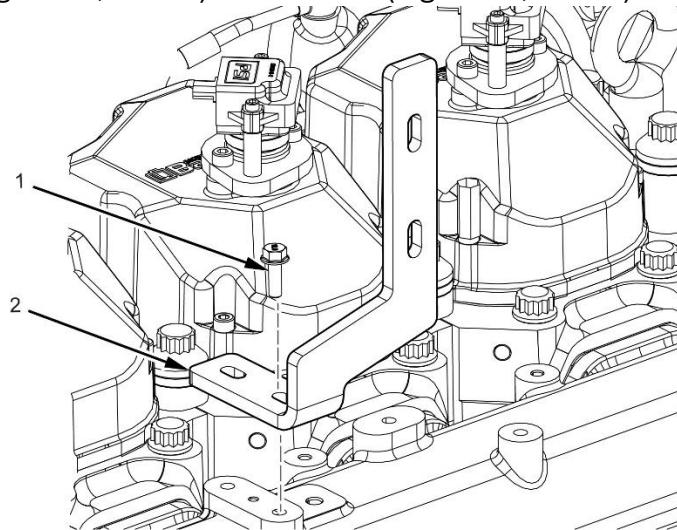
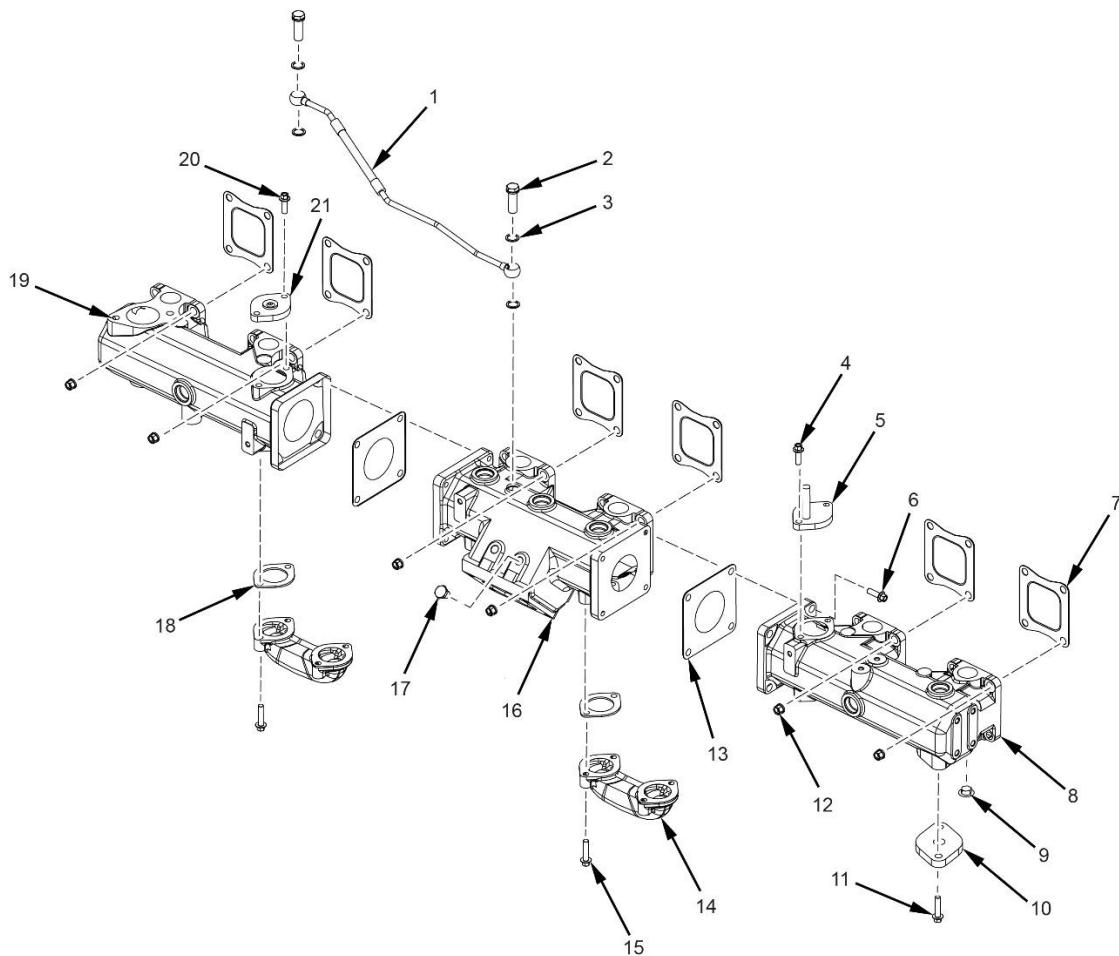
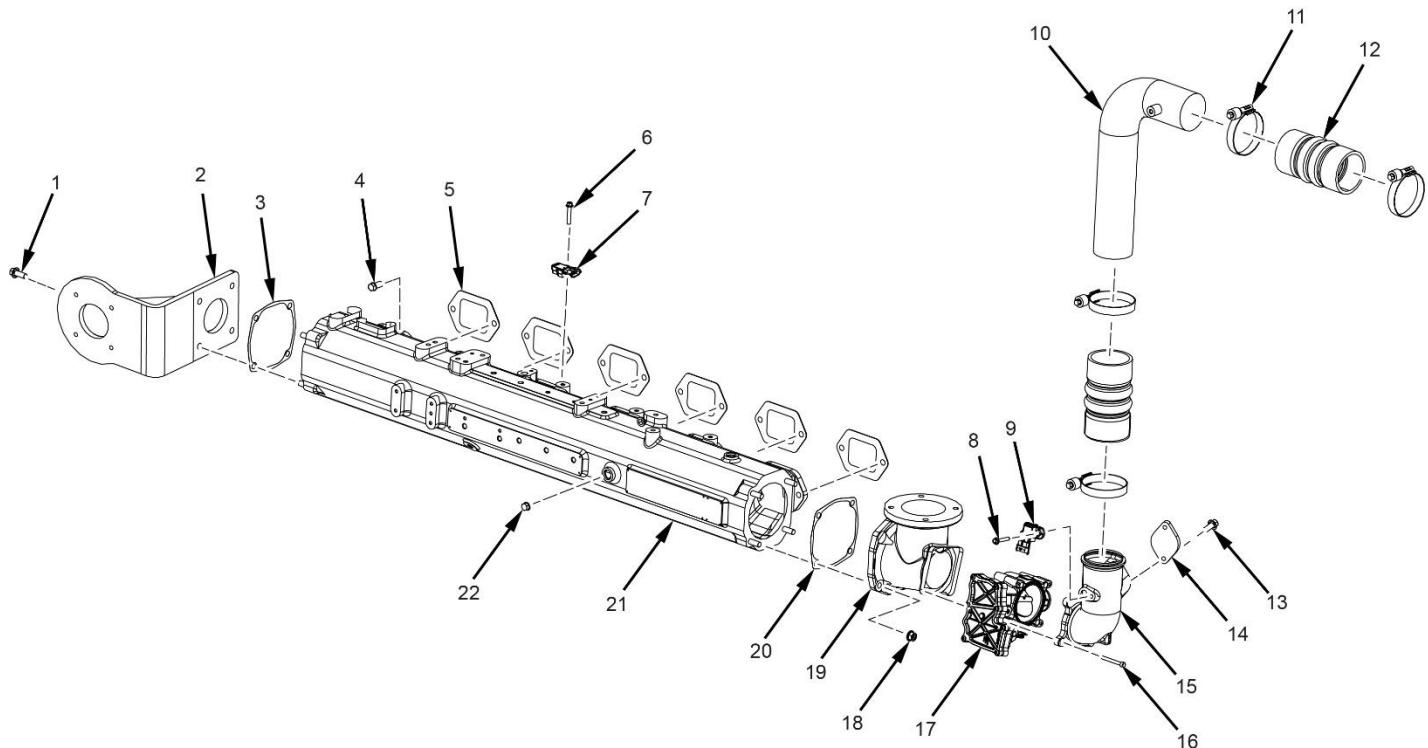

Figure 34. Lock Off Valve Bracket Assembly
Figure 35. Exhaust Manifold Assembly
Figure 36. Intake Manifold Assembly
7. Remove two bolts (Figure 34, Item 1) from the lock off valve bracket (Figure 3, Item 2) and remove bracket.
1. Install lock off valve bracket (Figure 34, Item 2) and two bolts (Figure 34, Item 1) to the intake manifold.
2. Remove bolt (Figure 35, Item 2), washers (Figure 35, Item 3) and pipe (Figure 35, Item 1) from exhaust manifold assembly.
3. Remove 34 nuts (Figure 35, Item 12) securing the from exhaust manifold assembly.
4. Remove the exhaust manifold assembly from engine and remove six exhaust gaskets (Figure 35, Item 7). Discard gaskets.
5. Remove the bolts (Figure 35, Item 15), gaskets (Figure 34, Item 18) and water pipes (Figure 35, Item 15) from the exhaust manifolds.
6. Remove bolts (Figure 35, Item 4) and flange (Figure 35, Item 5).
7. Remove bolts (Figure 35, Item 11) and flange (Figure 35, Item 10).
8. Remove bolts (Figure 35, Item 20) and flange (Figure 35, Item 21).
9. Remove taper plug (Figure 35, Item 9) if required.
10. Remove plugs (Figure 35, Item 17) if required.
11. Remove bolts (Figure 35, Item 6) and Exhaust Manifold Assemblies (Figure 35, Item 8 and 19) and gaskets (Figure 35, Item 13) from Exhaust Manifold Assembly (Figure 35, Item 16). Discard gaskets.
2. Install new gaskets (Figure 35, Item 13) between the three sections of the exhaust manifolds (Figure 35, Item 18, 16 & 8).
4. Apply molybdenum disulfide onto the threads of all bolts (Figure 35, Item 6).
5. Install bolts (Figure 35, Item 6) and tighten.
6. Torque all bolts (Figure 35, Item 7).
7. Install taper plug (Figure 35, Item 9) if removed.
8. Install plugs (Figure 35, Item 17) if removed.
9. Install bolts (Figure 35, Item 4) and flange (Figure 35, Item 5).
10. Install bolts (Figure 35, Item 11) and flange (Figure 35, Item 10).
11. Install water pipes (Figure 35, Item 15) and gaskets (Figure 35, Item 18) to the exhaust manifolds and secure with bolts (Figure 35, Item 15).
13. Install new gaskets (Figure 35, Item 7) onto the cylinder heads and between the exhaust manifold assembly.
14. Install and torque the 24 nuts (Figure 35, Item 12).
15. Install bolt (Figure 35, Item 2), washers (Figure 35, Item 3) and pipe (Figure 35, Item 1) to the exhaust manifold assembly.
1. Loosen clamps (Figure 36, Item 11) and remove Pipe Coupler (Figure 36, Item 12) from Charge Air Cooler Outlet Pipe (Figure 36, Item 10).
2. Remove the two bolts (Figure 36 Item 13) from flange (Figure 36, Item 14).
3. Remove bolt (Figure 36 Item 8) and Throttle Inlet Pressure and Temperature Sensor (Figure 36, Item 9) from Throttle Inlet Pipe (Figure 36, Item 15).
4. Remove four bolts (Figure 36, Item 16), electronic throttle (Figure 36, Item 17) and Mixer Intake Pipe (Figure 36, Item 15) from Mixer Intake Pipe (Figure 36, Item 19).
5. Remove four nuts (Figure 36, Item 18) from Manifold Inlet Pipe (Figure 36, Item 19) and gasket (Figure 36, Item 20) from Intake Manifold (Figure 36, Item 21).
6. Remove Hexagon Taper Screw Pug (Figure 36, Item 22) from Intake Manifold (Figure 36, Item 21).